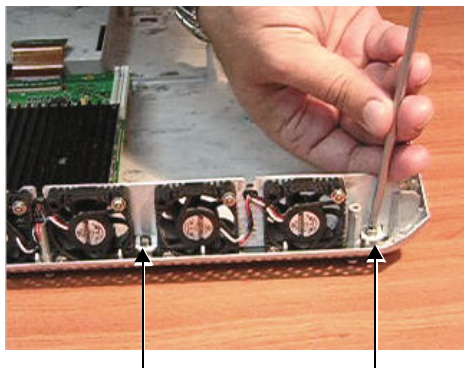

Figure 8-65 Removing the Screws from the Fan Assembly
- 3) Unscrew and remove the two screws that secure the Fan Assembly to the Bottom Assembly as shown in Figure 8-65 below.
- 3) Make sure the Fan Assembly is seated in the correct position. Return and fasten the two screws (previously removed) to secure the Fan Assembly to the Bottom Assembly, as shown in Figure 8-65 on page 8-56.